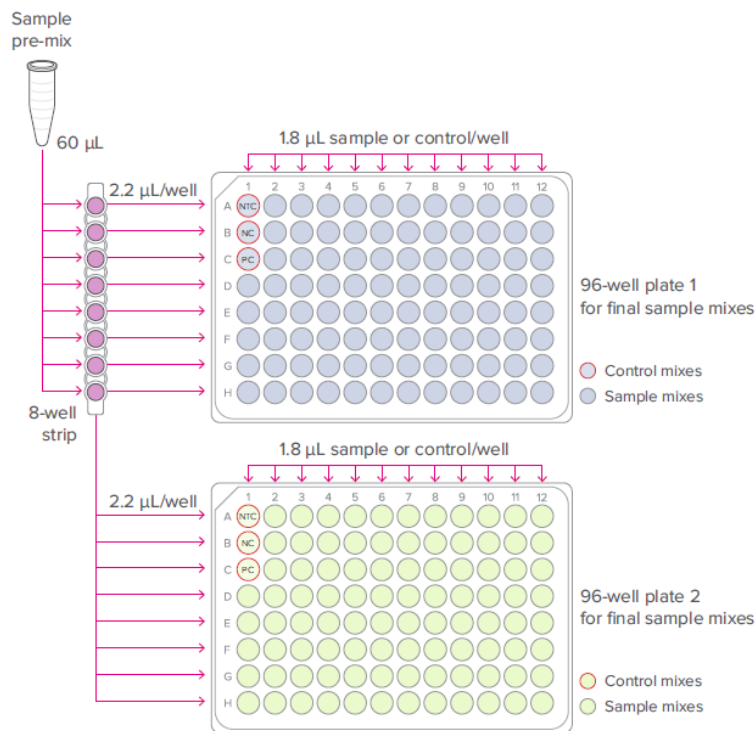

Figure 3. Final sample plates (per-well transfer volumes)
- 3** Prepare the final sample mixes as shown in Figure 3.